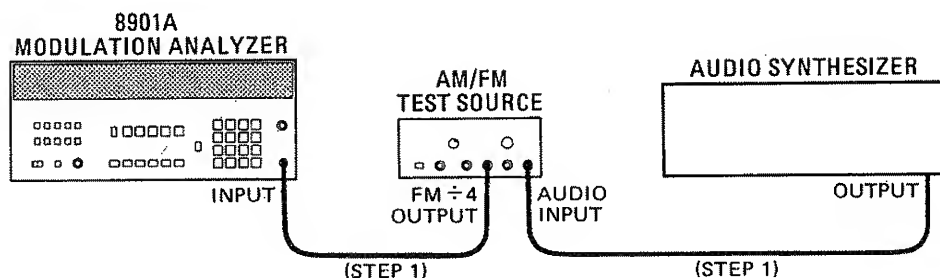

Figure 4-6. Audio Filters Performance Test Setup
1. Connect the equipment as shown in figure 4-6.